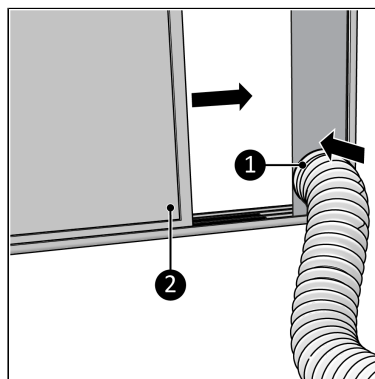

Figure 27.
5. Close the window (Figure 27, pos. 2). This will hold the window kit in place.
6. Connect the window kit connector to the window kit (Figure 27, pos. 1).